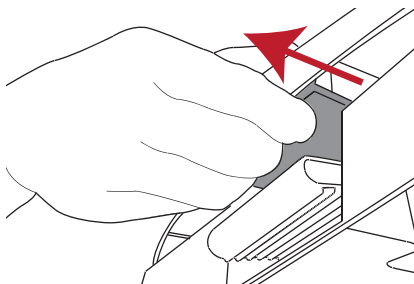

Figure 8
- Before adjusting the seat you must first pull out the red seat lock located under the seat. See Figure 8.